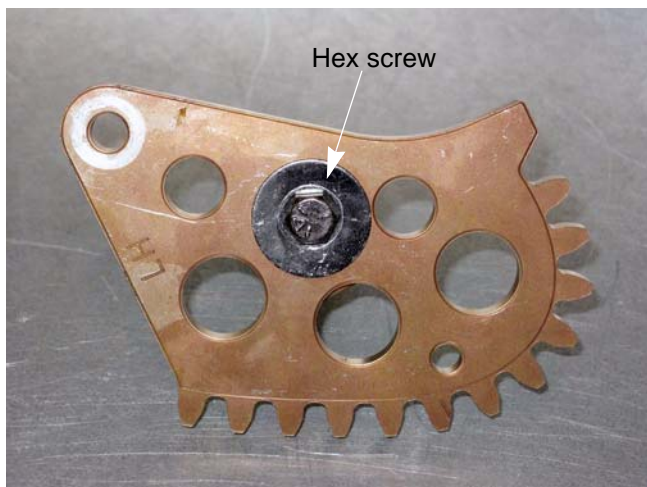

Figure 5.20
8. Remove the hex screw that holds the steering gear to the shaft using a 9/16" wrench. See Figure 5.20.